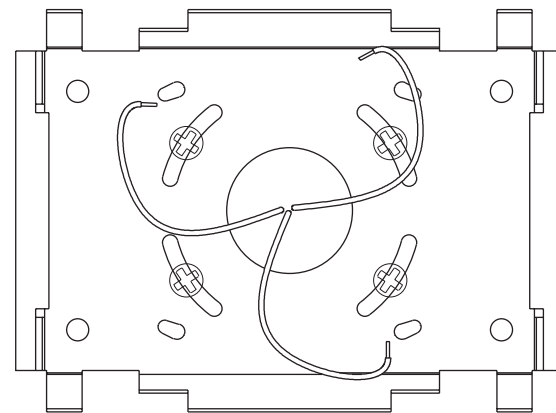

Figure 4
4. Place gasket over junction box opening. Secure luminaire mounting plate (supplied) to junction box temporarily using junction box screws. Make sure mounting plate's longest sides are running horizontal, not vertical. See Figure 4.